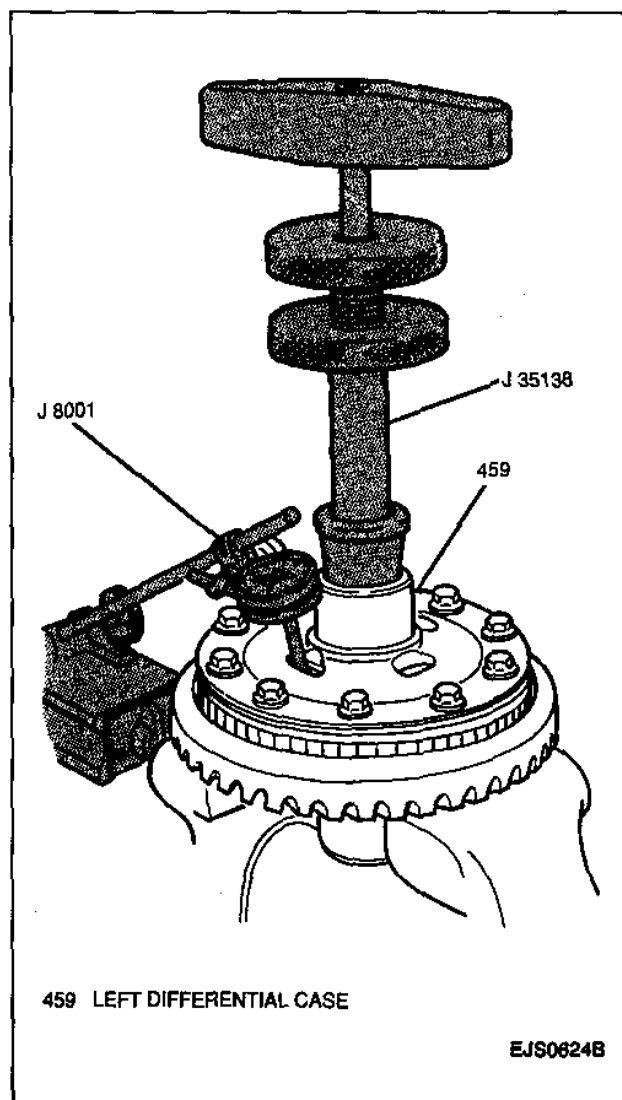

Figure 62—Measuring Left Differential Side Gear End Play
1. Left differential side gear end play using a J 8001 and a J 35138 (Figure 62). Insert the J 35138 in through the left axle shaft differential case bore and adjust until the J 35138 has a firm grasp on the left differential side gear. Then, move J 35138 up and down while observing the J 8001. Left differential side gear end play should measure 12 to 37 mm (0.005 to 0.014-inch). If left differential side gear end play is too high or low, replace the selective shim with the appropriate size to obtain correct end play.